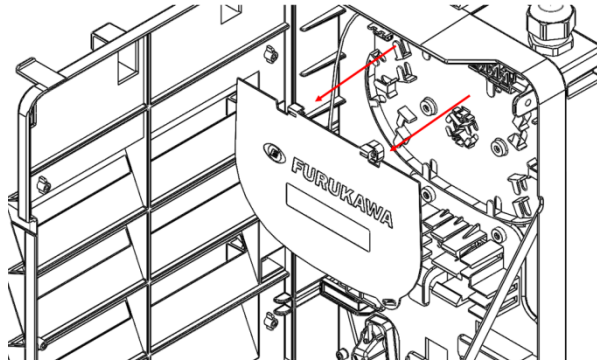

Fig. 17
3.6.3. Remove the splice tray cover (Fig. 17)